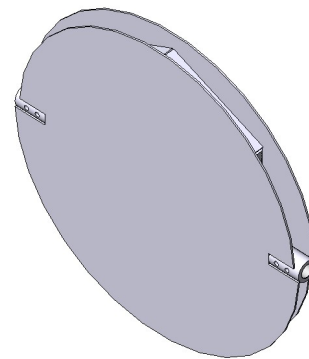

Fig. 14
- **Seat 3:** Metal/joint seal. This type of seal includes rims in the shape of a half-moon welded inside the body. These rims have a machined recess where the seal fits. The swing check closes against this seal (fig. 14). The estimated leak is 1% of the pipe flow. There are several materials available for the watertight joint, chosen mainly in line with the working temperature of the valve. We calculate that this type of seal achieves watertight integrity of 99%.